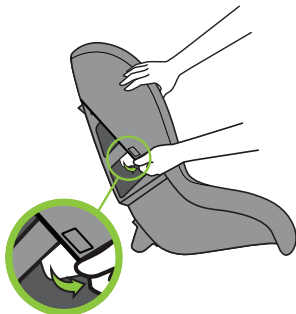

Figure 98
- Unfasten side tab on each side by sliding tabs down and out from under the edge of the Inner Shell, as shown in **Figure 98**.